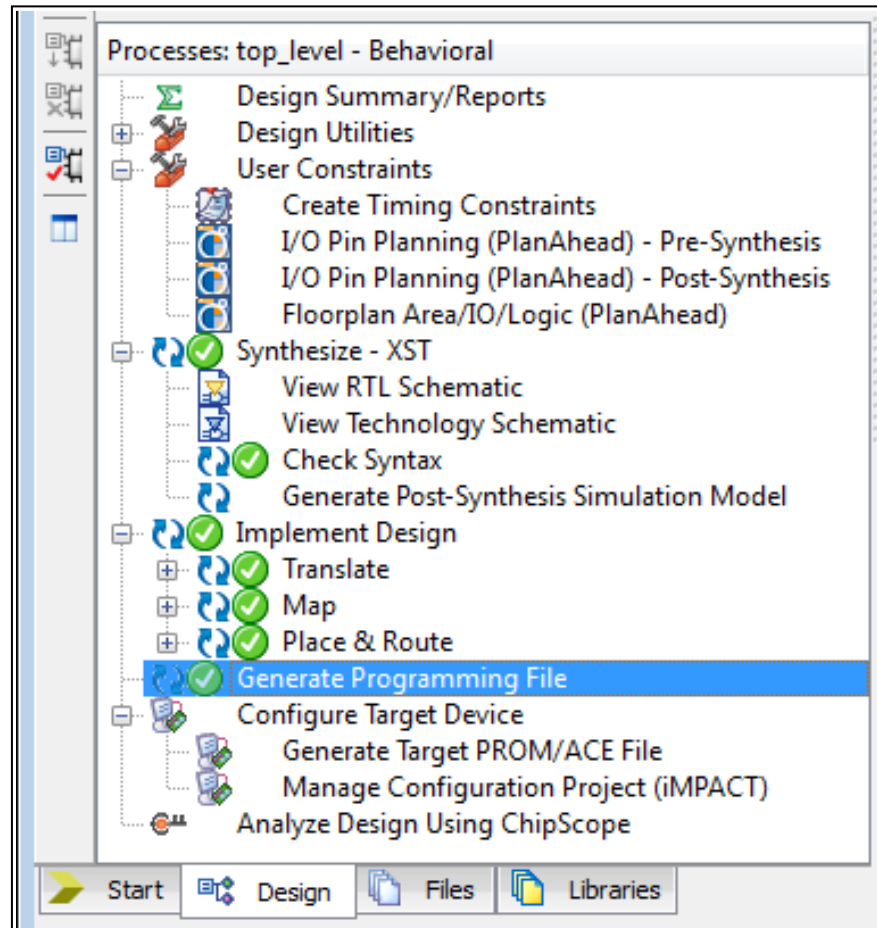

Figure 3.28: Portion of Project Navigator screen, after Generate Programming File has successfully been run.
2. Double-click on **Generate Programming File**. When this has successfully run, a green tick will appear next to **Generate Programming File** as shown in Figure 3.28.